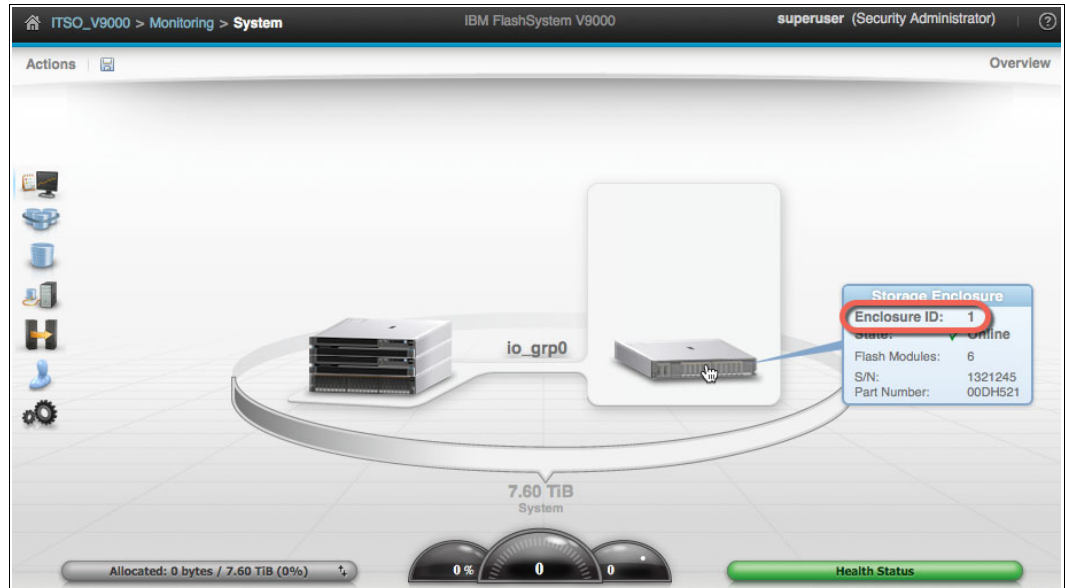

Figure 7-33 Confirm the correct enclosure
8. Return to the GUI and use the system panel to complete removing the storage enclosure. Confirm that you are working with the correct enclosure by hovering over the device, as shown in Figure 7-33.